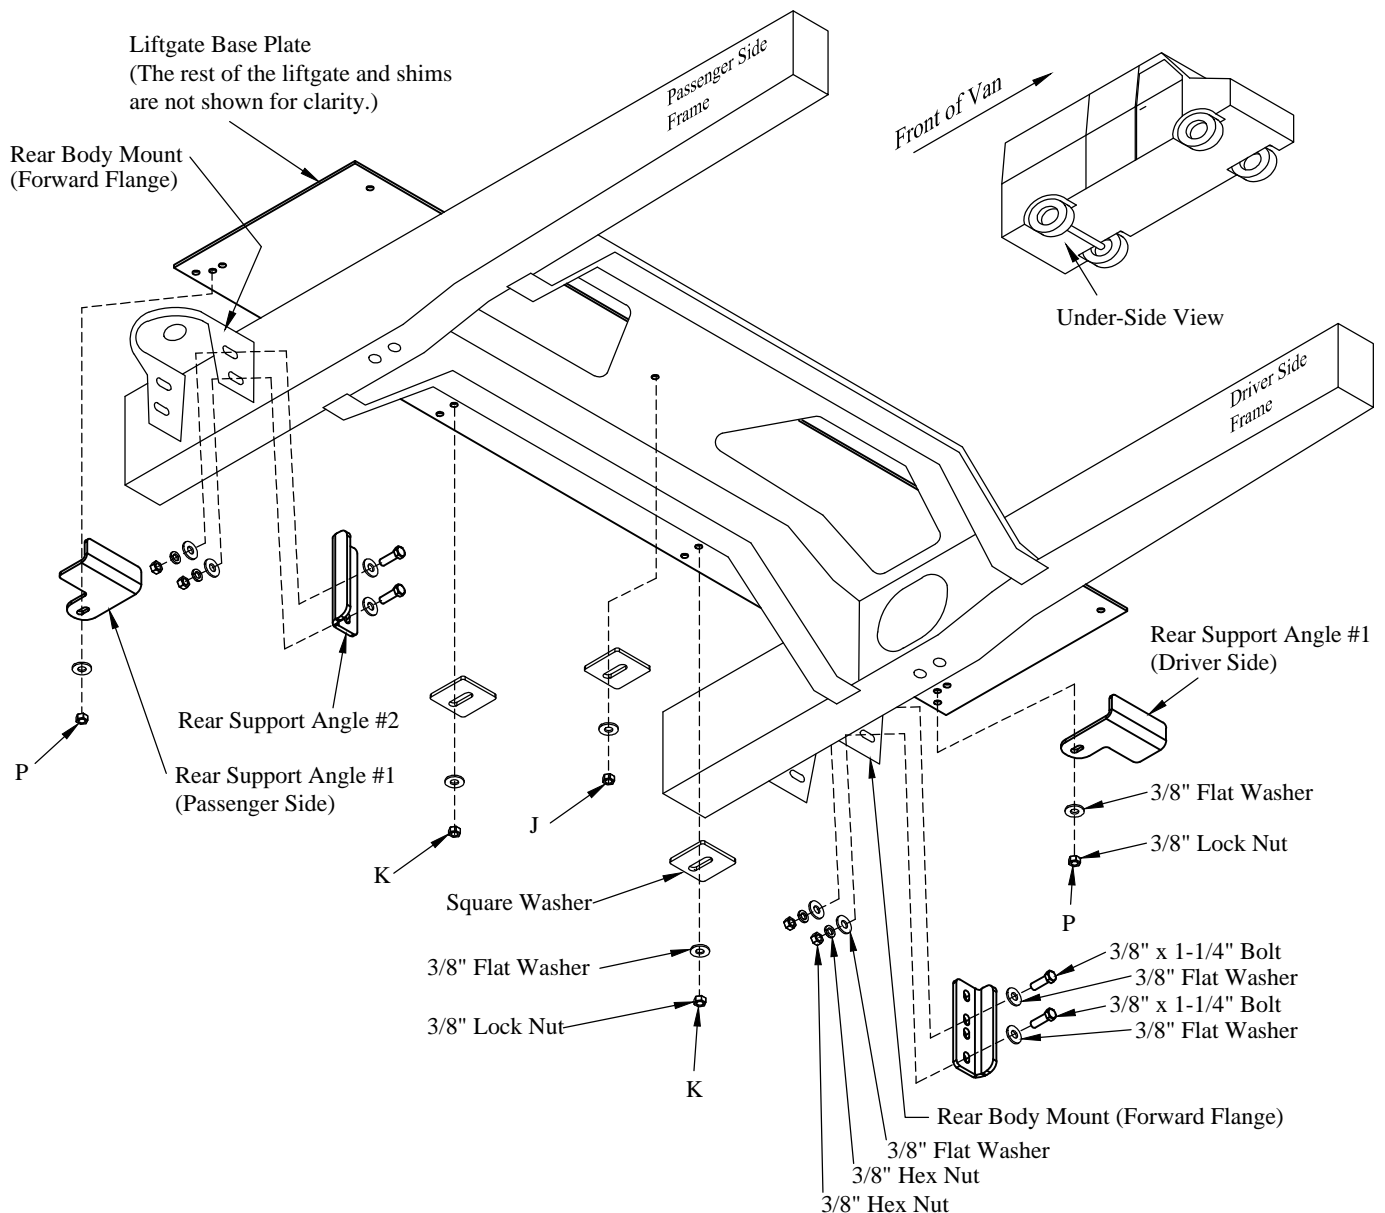

Figure 11: Under-side view of van.
10. **Install** a square washer, 3/8" flat washer, and lock nut on the "J" and "K" location bolts (Figure 11).
11. **Install** a rear support angle #1, 3/8" flat washer, and lock nut on each of the "P" location bolts (Figure 11).
12. **Install** one (1) rear support angle #2 on the forward flange of each rear body mount (Figure 11). Use supplied 3/8" x 1" bolts, flat washer, lock washer, and hex nut. Hold the rear support angle #2 tight against rear support angle #1 when tightening.